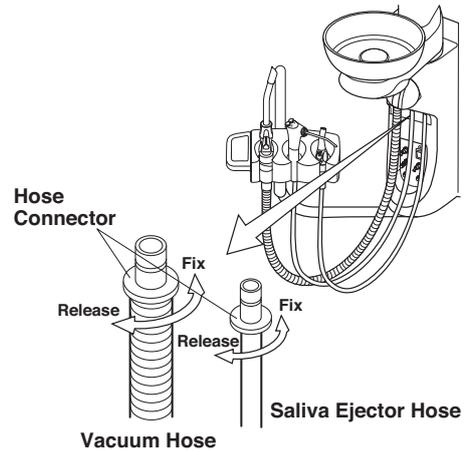

Fig.5-4 Vacuum Hose and Saliva Ejector Hose
- 1-2. Vacuum hose and saliva ejector hose are detachable from the cuspidor unit.(Fig.5-4)